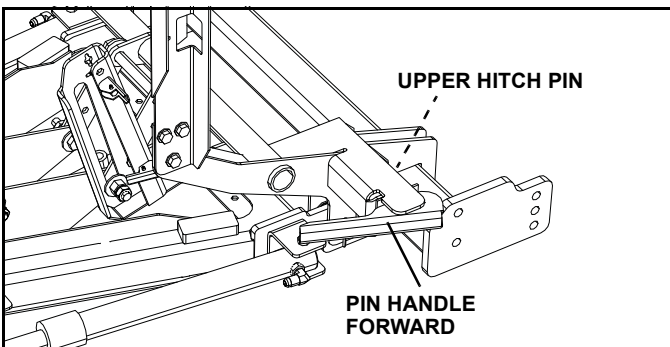

Figure 1-18
4. Rotate pin handles forward to lock upper hitch pins in place. (See Figure 1-18). Put plow in float position by turning down pressure off.